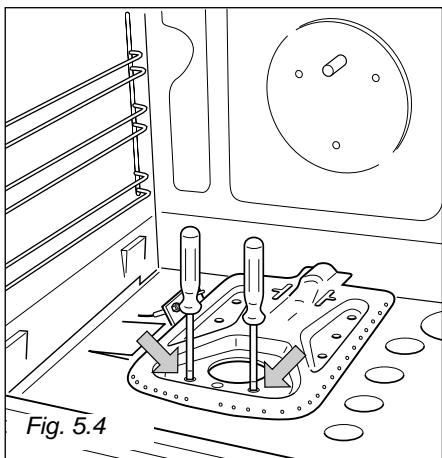

Fig. 5.4
- Unscrew the burner fixing screw (fig. 5.4)